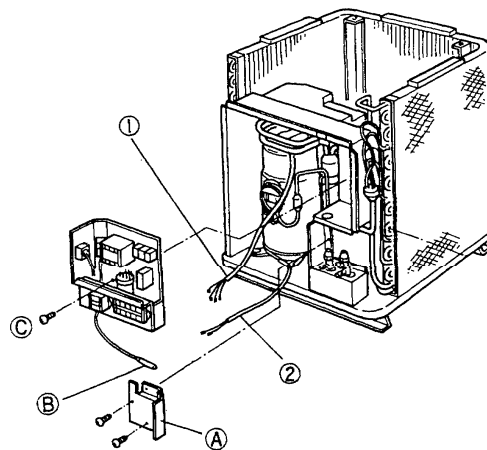

Fig. 9
- 2) Remove the cover plate (A) and the sensor (B).
- 3) The electrical component box can now be removed by unscrewing one screw (C). Fig. 9